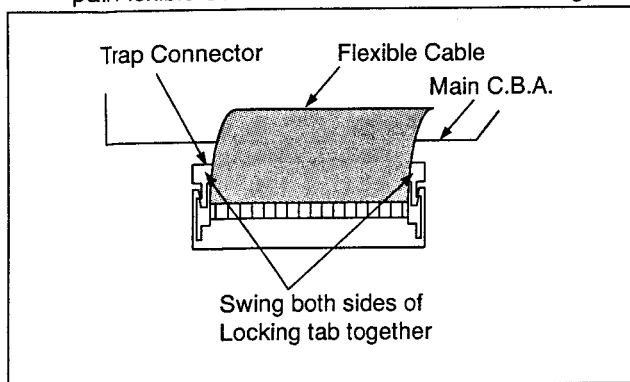

Fig. S9
1. On the Trap Connector, swing both ends of the Locking Tab to release the Trap portion of the Connector. Then pull Flexible Cable out to remove as shown in Fig. S9.